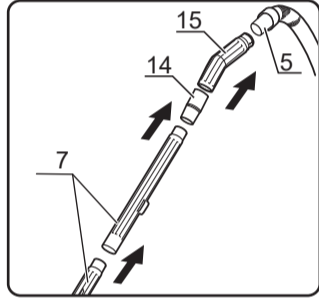

fig.7-1
- Choose the desired nozzle/extension tube(s)/joint handle and push it onto the small end of the hose. (fig.7-1, 7-2)